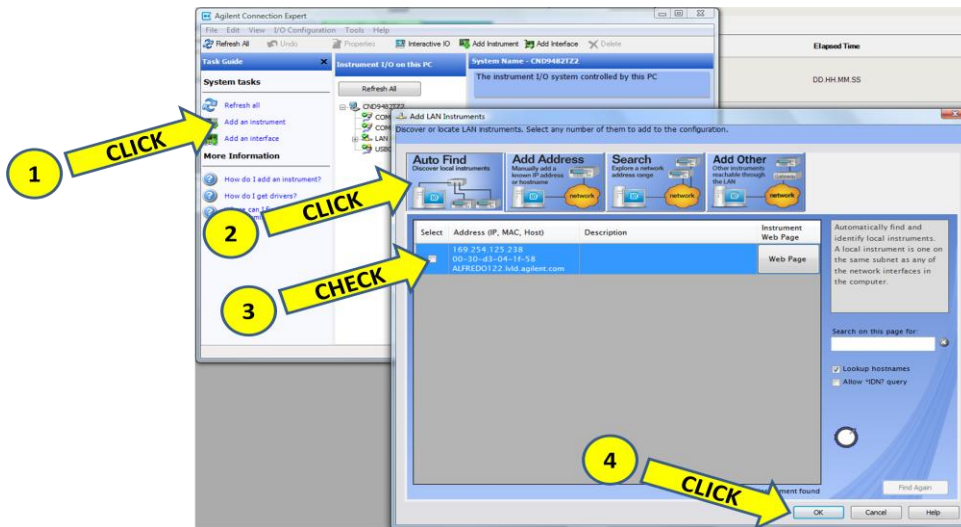

Figure D2– Add instrument to ACE.
- 5) Once ACE opens (figure D2) highlight the **LAN (TCPIP0)** icon (just below the **Refresh all** button).
- 6) Select **Add Instrument** icon on the toolbar (figure D2 – 1)